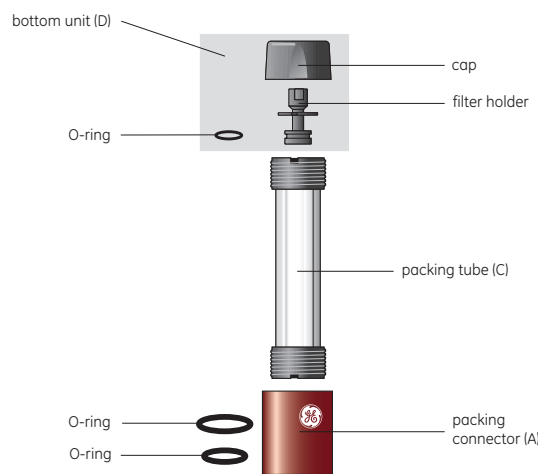

Fig 2. Tricorn Packing Equipment.
To fill the empty column, you can use Tricorn Packing Equipment, which is a complete column packing set-up as shown in Figure 2. Alternatively, you can purchase each packing component separately to make your own packing set-up. The advantage of doing this is that you can choose a Tricorn Packing Connector and Tricorn Glass Tube to suit your application.
1. Screw a suitable Tricorn Packing Connector (accessory, Fig 2, A) onto the top of the column tube. The Tricorn Packing Connector must be fitted with suitable O-rings (included with the Tricorn Packing Connector).
3. Screw the Tricorn Packing Tube (accessory, Fig 2, C) into the upper fitting of the Tricorn Packing Connector. The dimensions of the Tricorn Packing Tube depend on the chromatography resin being used.
6. Attach the bottom unit (Fig 2, D) to the top of the packing tube. Place a beaker beneath the column tube and remove the stop plug from the end cap of the column tube.